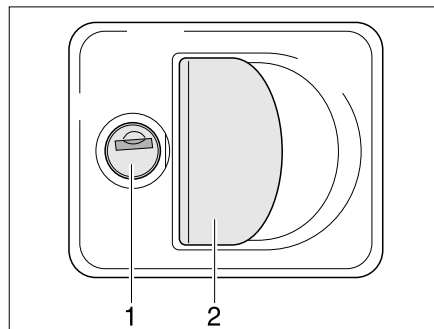

Fig. 55 Flap lock with recessed handle
- Insert key into locking cylinder (Fig. 55,1) and turn a quarter turn. The flap lock is unlatched.
- Pull on the lock handle (Fig. 55,2). The external flap is open.